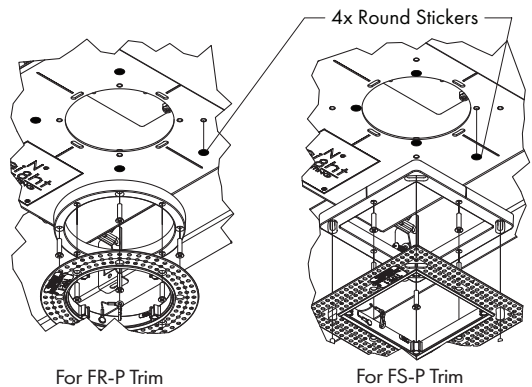

FIG 3.4 Sticker Application
STEP 4 Apply Stickers over unused holes and slots as shown to prevent light leaks and maintain airtight standards compliance. No caulking required – **FIG 3.4.**